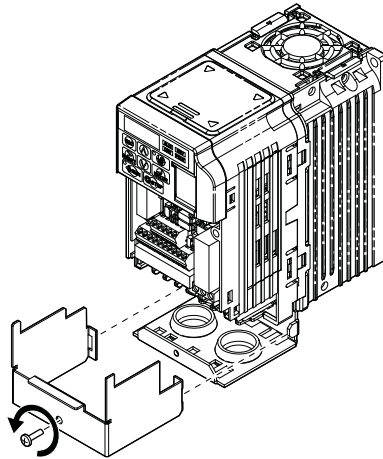
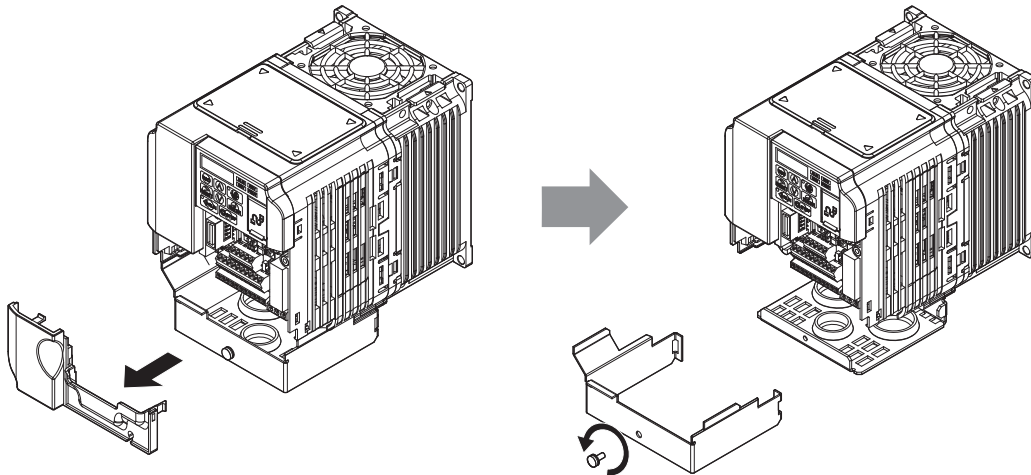

Figure 8 Remove the NEMA Type 1 Terminal Cover (CIMR-V□BA0001F to BA0003F, 2A0001F to 2A0006F)
Figure 9 Remove the Terminal Cover on an IP20/NEMA Type 1 Drive (Models CIMR-V□BA0006F to BA0018F; 2A0008F to 2A0069F; 4A0001F to 4A0038F)
6. For IP20/NEMA Type 1 enclosure models CIMR-V□□A□□□□F, loosen the screw on the front of the NEMA Type 1 terminal cover and remove it from the drive. Refer to Figure 8 for details. Refer to Figure 9 for drive models CIMR-V□BA0006F to BA0018F, 2A0010F to 2A0069F, and 4A0001F to 4A0038F, which require removing the plastic terminal cover prior to removing the NEMA Type 1 terminal cover.